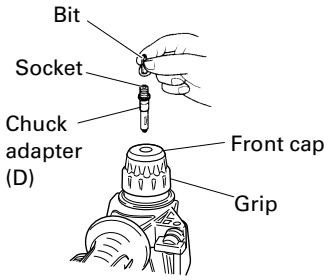

Fig. 11
4. When driving machine screws (Fig. 11)
- Do not attempt to use the rotary hammer in the rotation and hammering function with chuck adaptor (D) and bit attached.
5. When driving wood screws (Fig. 11)